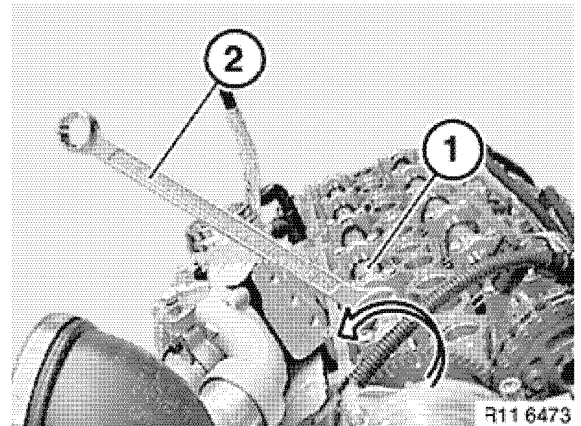

Figure 5-93
9. Use a wrench (2, Figure 5-93) to turn exhaust camshaft (1, Figure 5-93) in direction of arrow to compress the timing chain tensioner.